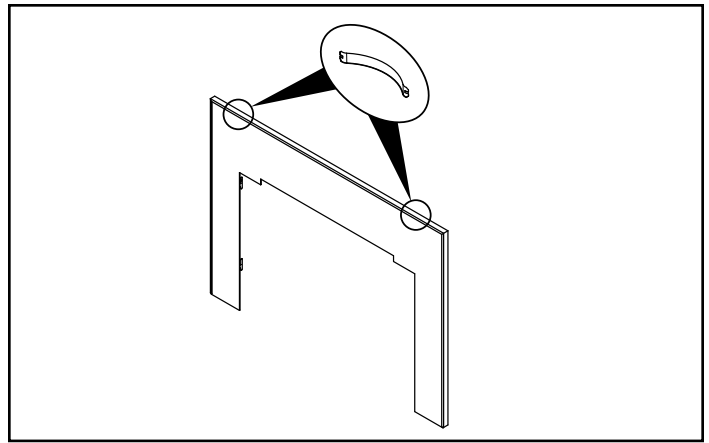

Figure 5.14
5. Install two steel springs at the top on each side and between the flat surround and the assembled trim kit as shown in **Figure 5.14**.